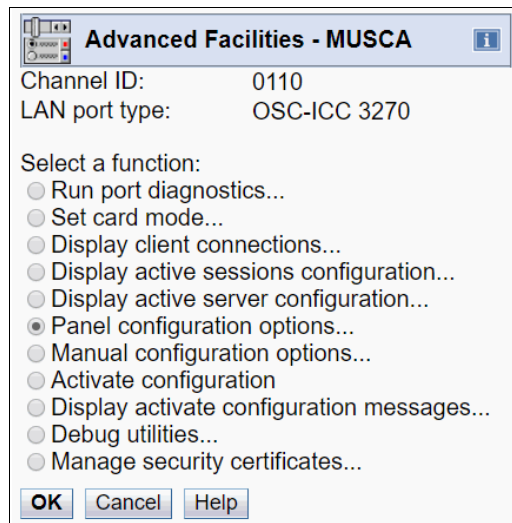

Figure 7-2 Selecting Panel configuration options option
3. Select **Panel configuration options** and click **OK** (see Figure 7-2).